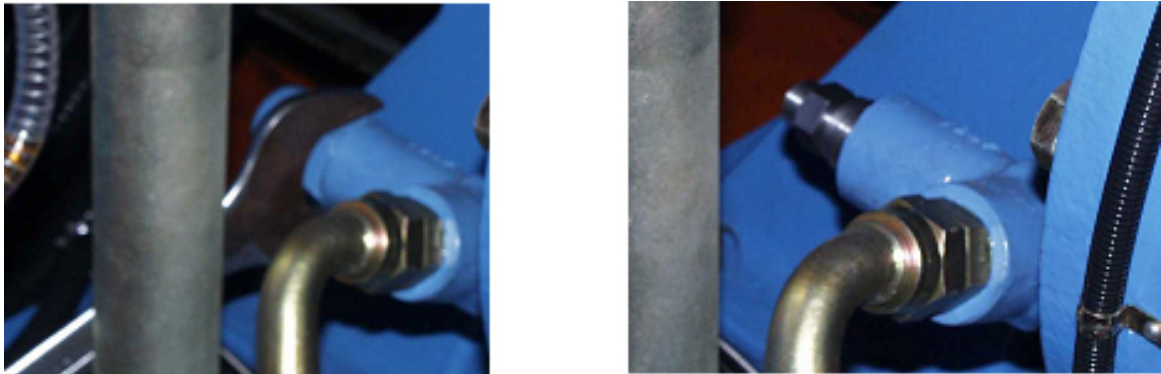

Figure 7.8
- Remove the sensing valve cap, by using the special spanner Figure 7.8